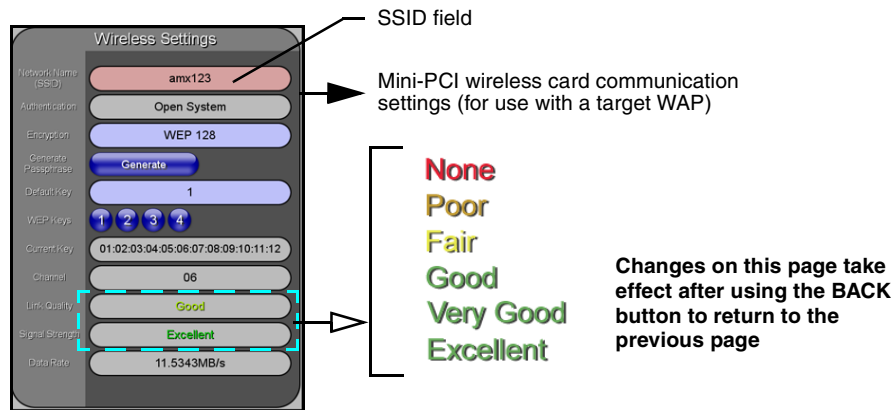

FIG. 81 Wireless Settings page (Wireless Settings section)
6. Locate the Wireless Settings section of the Wireless Settings page (FIG. 81).
9. Toggle the *Encryption* field (FIG. 81) until it reads **WEP64** or **WEP128**. *The 64/128 selection reflects the bit-level of encryption security. This WEP encryption level must match the encryption level being used on the WAP.*
13. Write down this Current Key string value for later entry into your WAP's *WEP Key* field (*typically entered without colons*) and into the communicating panel's *Current Key* field (FIG. 81).